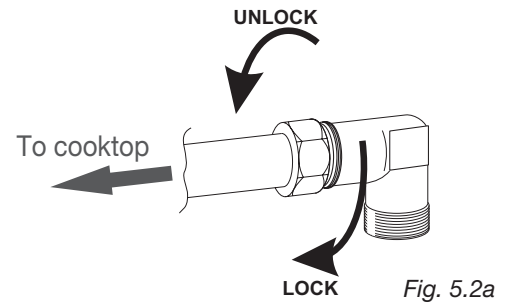

Fig. 5.2a
2. Pressure Regulator (figures 5.2a - 5.2b - 5.2c - 5.2d):